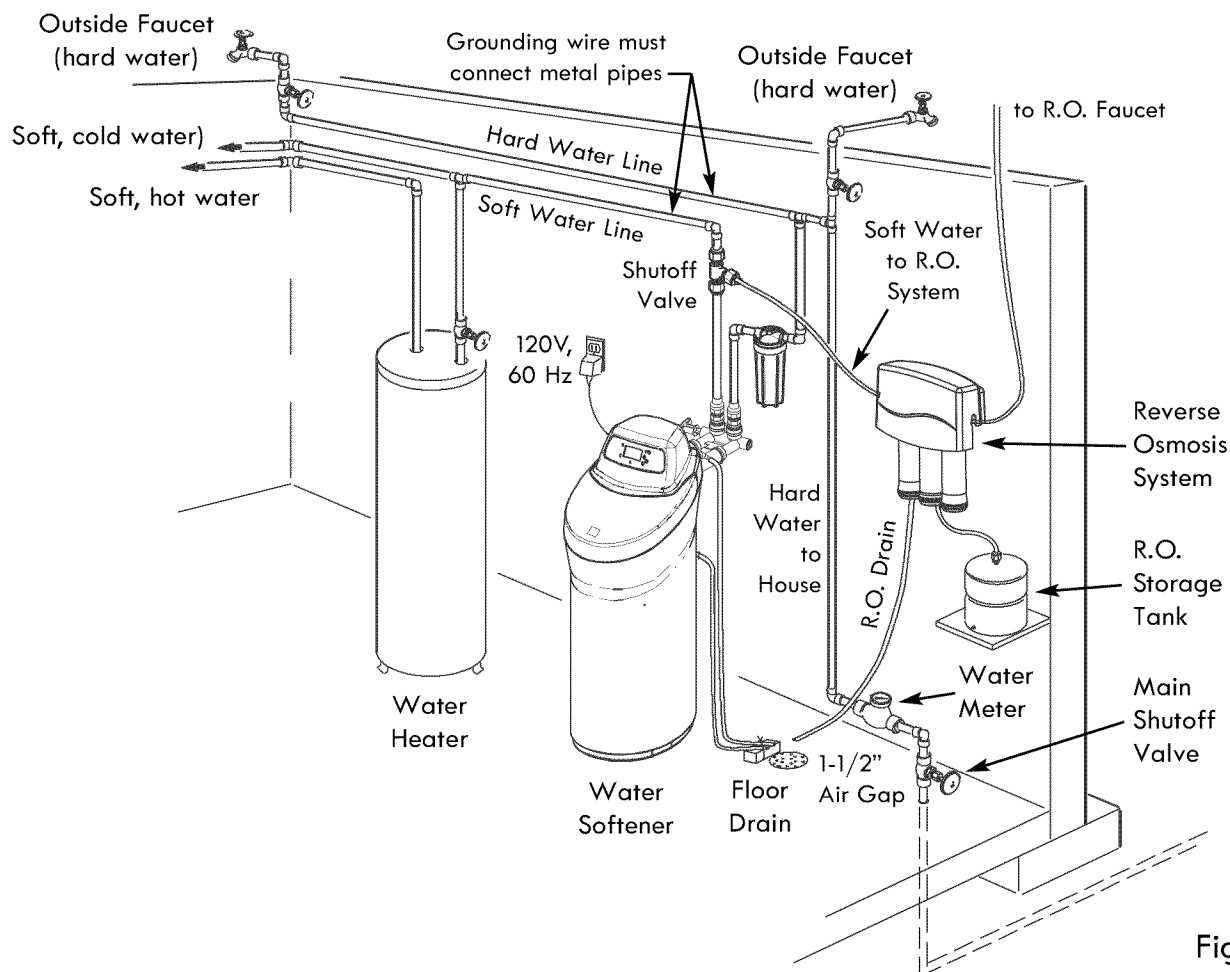

Figure 4
2. Place as close as possible to a water drain such as a floor drain, laundry tub, sump or standpipe (See Fig. 4).
4. Keep outside faucets on hard water to save soft water and salt. See Fig. 4.
7. A grounded, 120V, 60 Hz. electrical outlet is needed near the softener to plug in the transformer (See Fig. 4). Be sure the outlet and transformer are in an inside location, protected from wet weather. Use a continuously "live" outlet, which cannot be accidentally switched off.